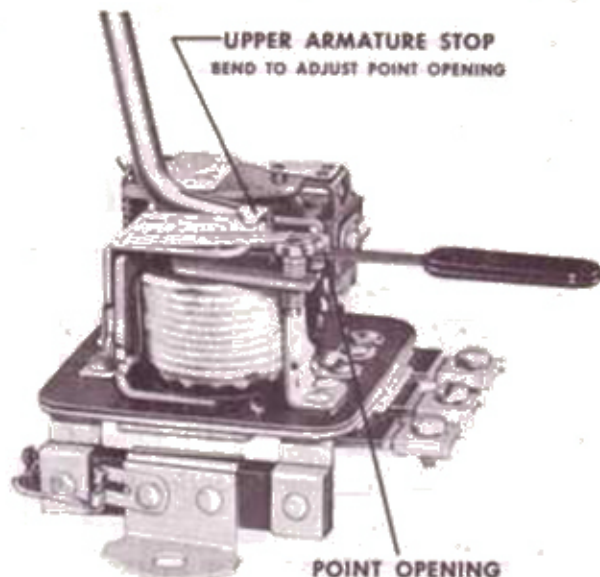

Figure 10—Cutout relay point opening check and adjustment (1118300 and 1118700 series). Battery must be disconnected when this check is made.
**POINT OPENING (1118300 and 1118700 Series)**—Check and adjust point opening as in 1118200 Series (Fig. 10).